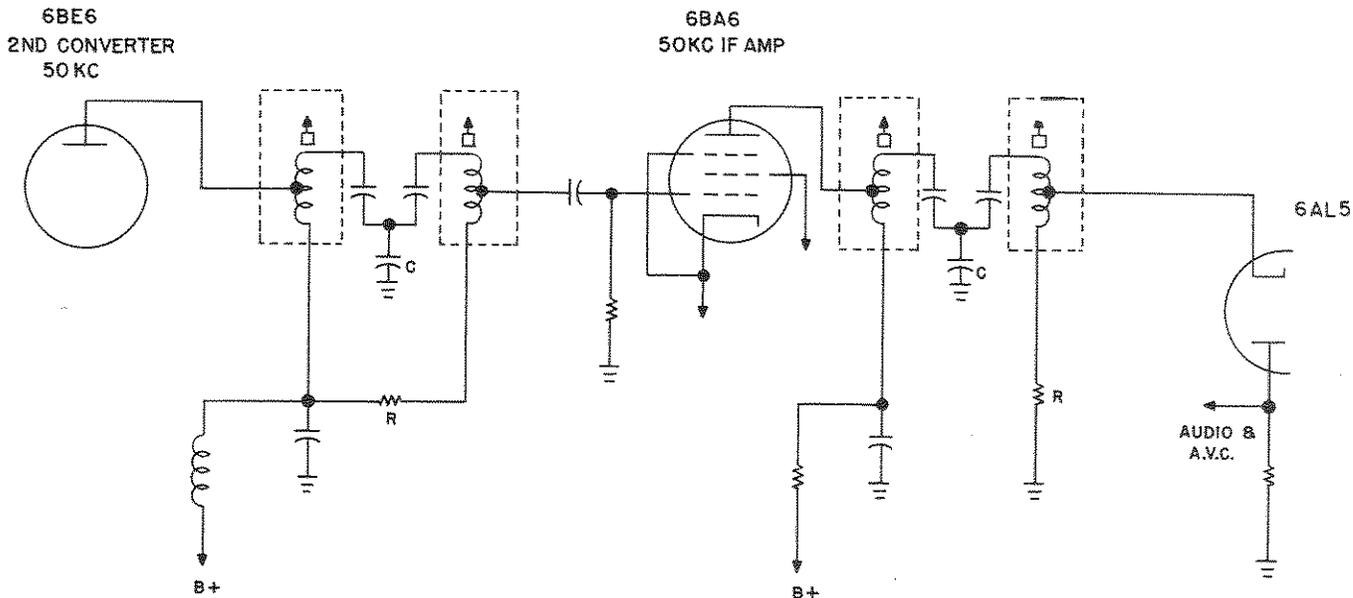

Fig. 7. 50 KC I.F. System
**50 KC I. F. SYSTEM** - Figure 7 is a simplified schematic diagram of the 50 KC I.F. system. It is unique in that the coupling between primary and secondary coils is through a resistive-capacitive network instead of the more common mutual inductive arrangement. All coupling occurs through C and R since each 50 KC coil is completely shielded to prevent inductive coupling. By increasing the value of C and R the selectivity can be made broad or conversely, by decreasing C and R, made sharp. This coupling arrangement affords a more accurate means of selectivity control than that readily obtainable by any other method.